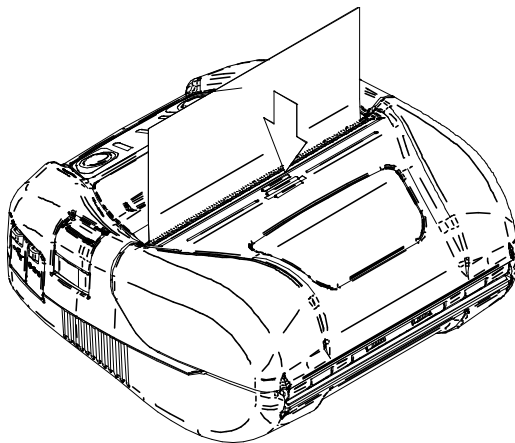

Figure 9-4 Paper Cover
- (4) Push firmly the center of the paper cover (the arrow in Figure 9-4) to close the paper cover.